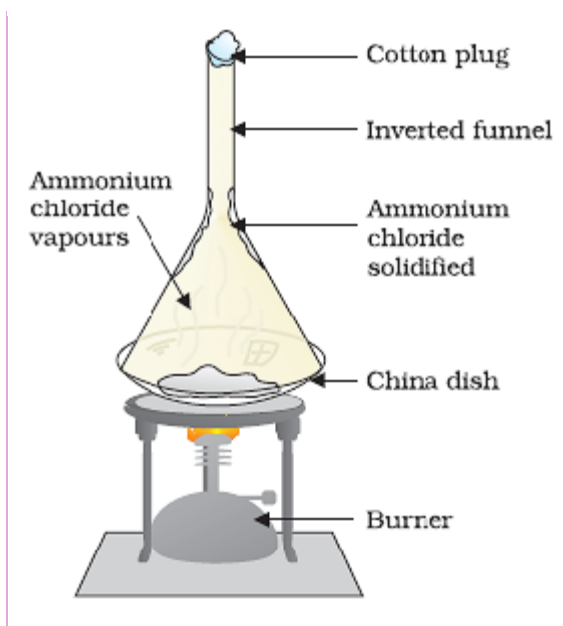

Fig 3: Sublimation of *ammonium chloride*. (Source: NCERT, Science IX, p. 8)
**Sublimation** is a process in which some solids, on heating, are transformed directly to vapour without passing through the liquid phase. This technique can be used to separate a mixture of solids, one of which can undergo sublimation. The vapours are then cooled separately to get the sublimed solid back, a process called **deposition**. (Fig. 3)